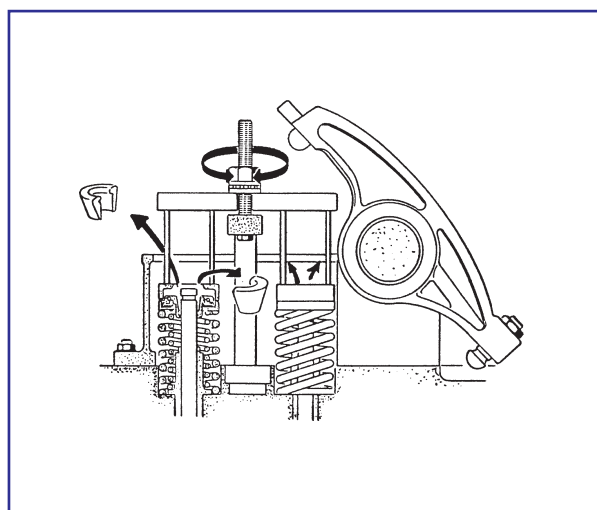

Fig 3
- 5) Now compress the valve springs by tightening the nut (B), after which the cone rings can be re-moved, see fig 3.